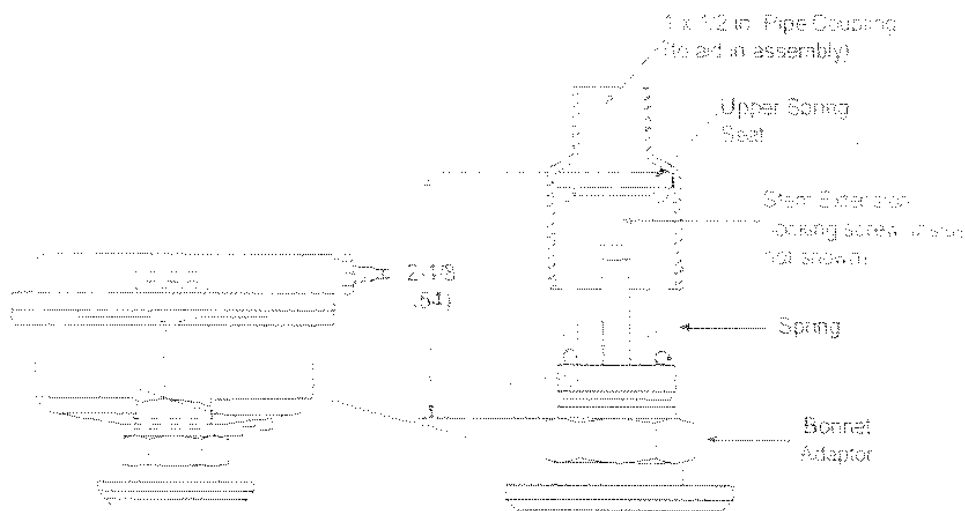

Figure 1: V-3801-8001 Actuator,
2. Using a 1-1/4 inch wrench, tighten the adaptor. Pull the valve stem to the full up position. Thread the stem extension onto the valve stem to the gauge height of 2-1/8 inch (54 mm). See Figure 1.
4. Use a pliers to hold the stem extension while tightening the locking screw with a screwdriver. Place the spring onto the bonnet adaptor. Place the upper spring seat onto the spring, lining up the hole with the rectangular shape of the stem extension. Using hand pressure, compress the spring below the stem extension and rotate 90° (see note). Release the spring, allowing the stem extension to nest in the depressed area of the spring seat. Verify the spring seat gauge height of 2-1/8 inch (54 mm). See Figure 1.